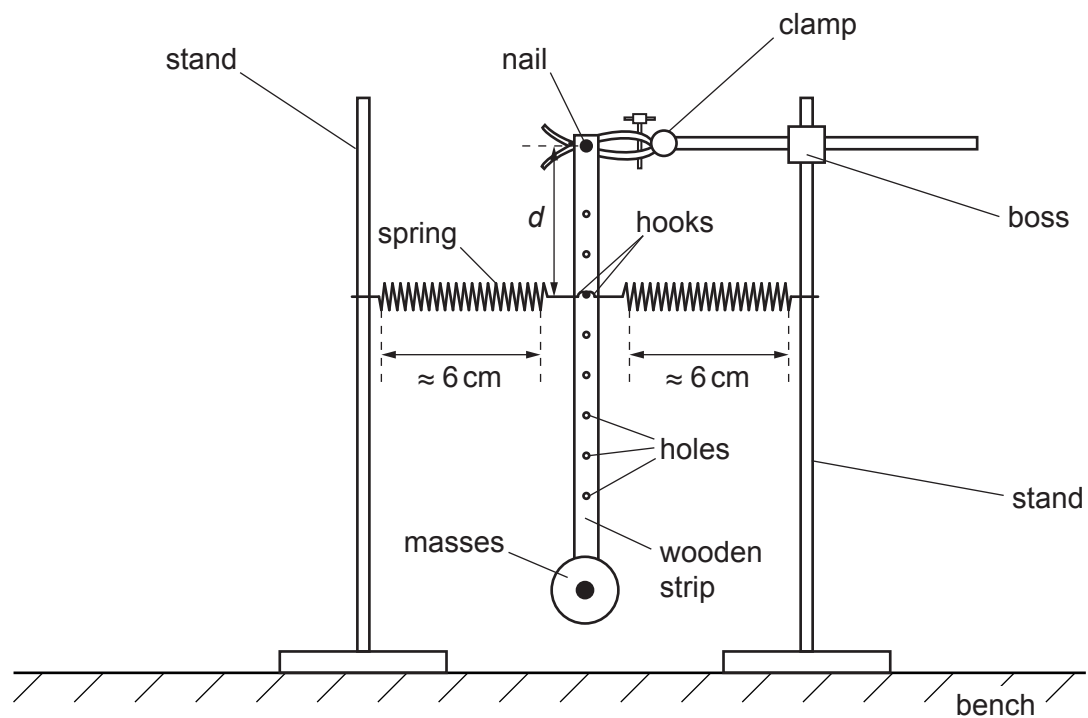

Fig. 1.1 (not to scale)
- Complete the set-up of the apparatus as shown in Fig. 1.1.